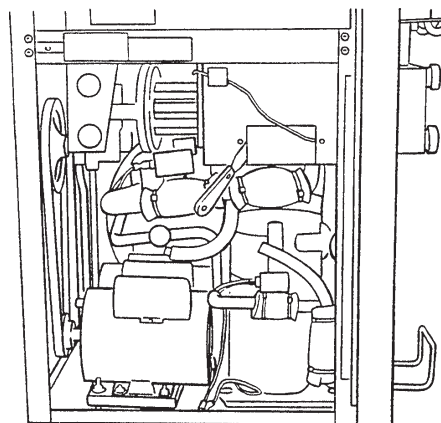

Figure 61. Foam Insulation Removal
4. Use a one (1) inch putty knife to cut the foam installation by gently pushing straight in (Figure 61).